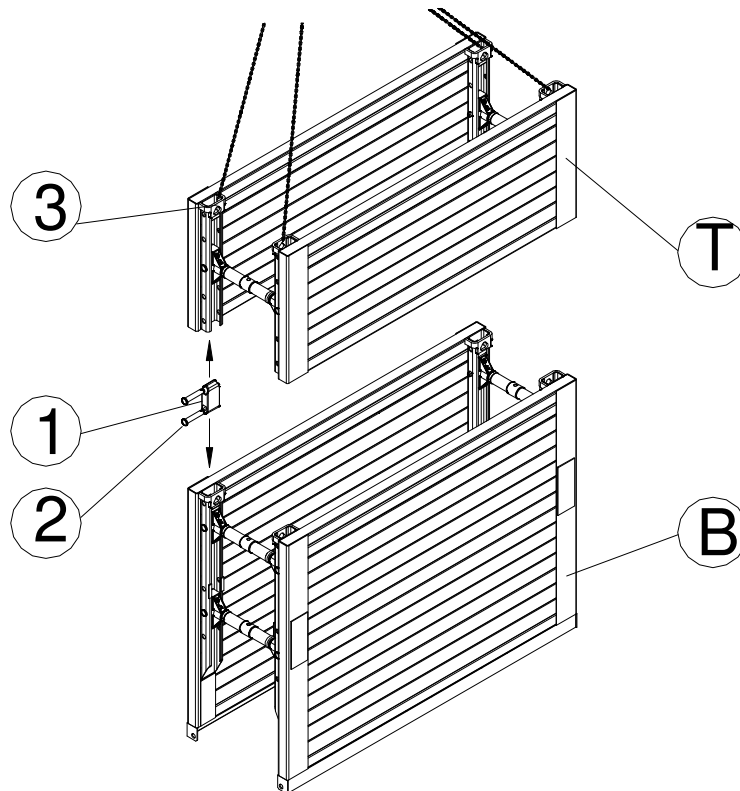

Figure 1: System overview of edge-supported shoring units
For the insertion process, the base (B) and top modules (T) must be assembled outside the trench and the system inserted as a single unit into the trench if trench boxes with top boxes are required to secure deeper trenches (Figure 1).
The sling must be exclusively attached to the envisaged attachment holes (3, erector heads (see Figure 1)) at at least four points (ES).